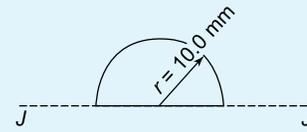

Figure 8.22
- For the semicircle shown in Figure 8.22, find the second moment of area and radius of gyration about axis *JJ*.